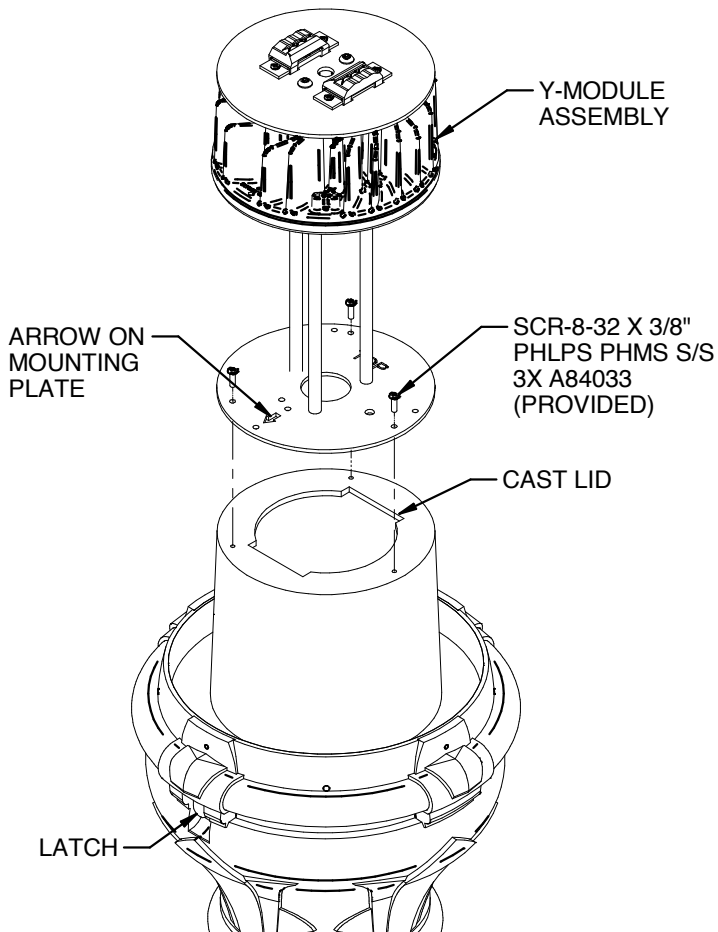

FIG. 3-1
1. INSTALL Y-MODULE TO CAST LID **WITH ARROW ON MOUNTING PLATE POINTING TO LATCH ON CAST LID** USING PROVIDED 8-32 X 3/8" SCREWS. (FIG. 3-1) **ARROW DENOTE STREET SIDE.**